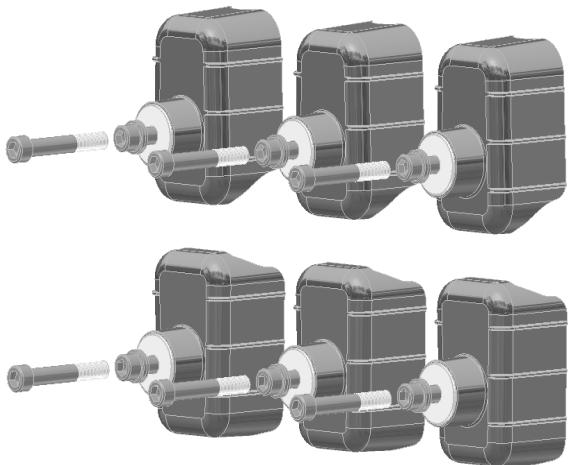

Figure 7
1) Parameter describes the distance between bus bar connection points on the upper and lower terminals of the ISM15\_Shell\_2 per Figure 7 and Figure 8.